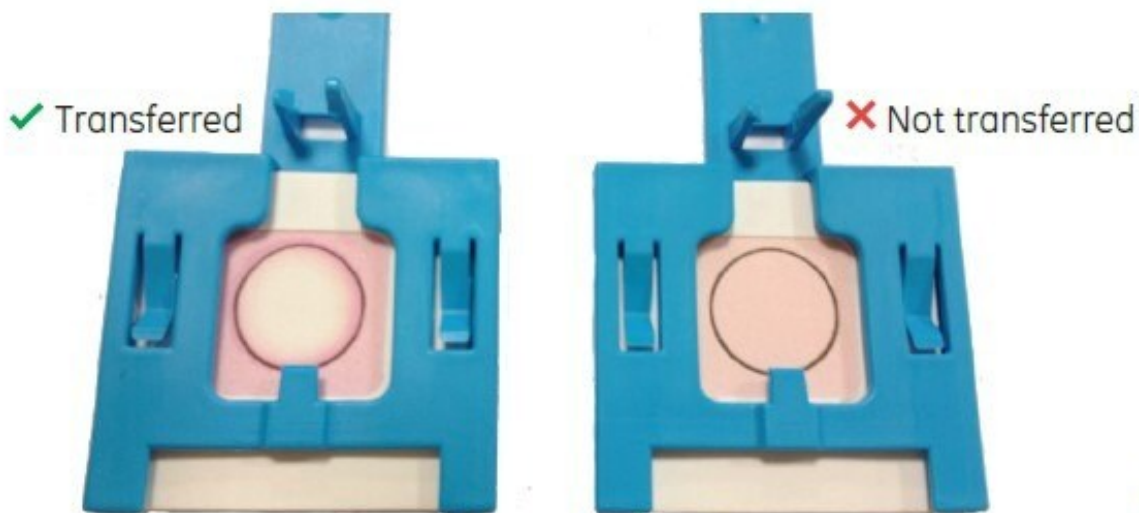

Figure 5
13. When dry, check the indicating FTA card and confirm that the colour has changed to **white** within the sample area (Figure 5).